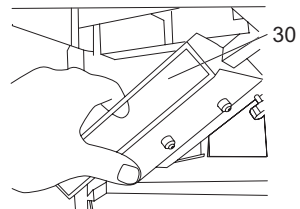

Fig. 18
- > Hold the dust extraction port (30) assembly at approximately 45° and slide it into place onto the thickneser bed. (Fig. 18)